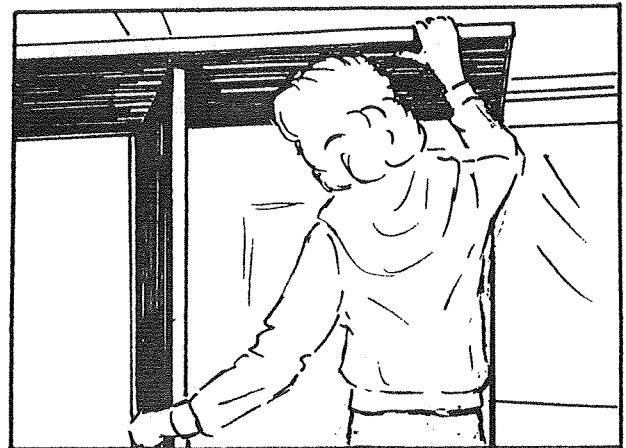

FIGURE 13
21. Raise bathroom wall to full vertical height including the uppermost folddown section. Open the door to a 90° angle from the wall and lower uppermost folding section of wall on to the top door edge. See Figure 13.